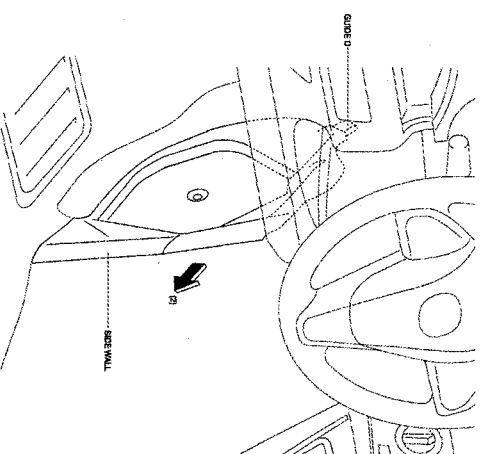

FIGURE 5
- 3.) PULL THE SIDE WALL IN THE DIRECTION OF THE ARROW (2) AND THEN REMOVE IT WHILE DETACHING THE GUIDE D. (SEE FIGURE 5)